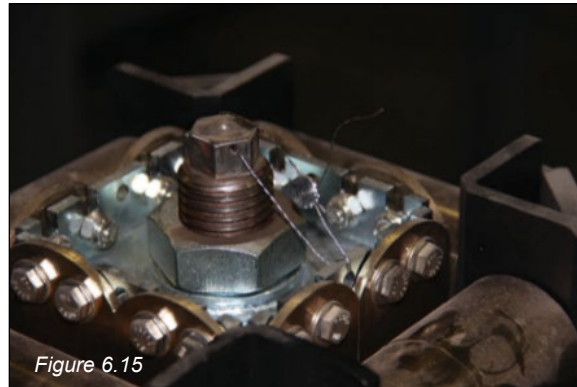

Figure 6.15
2. Install a wire and lead seal through the jam nut and the spring block and crimp the lead onto the wire, preventing unintentional adjustment of the valve (*Figure 6.15*). Install the debris screen (If applicable).